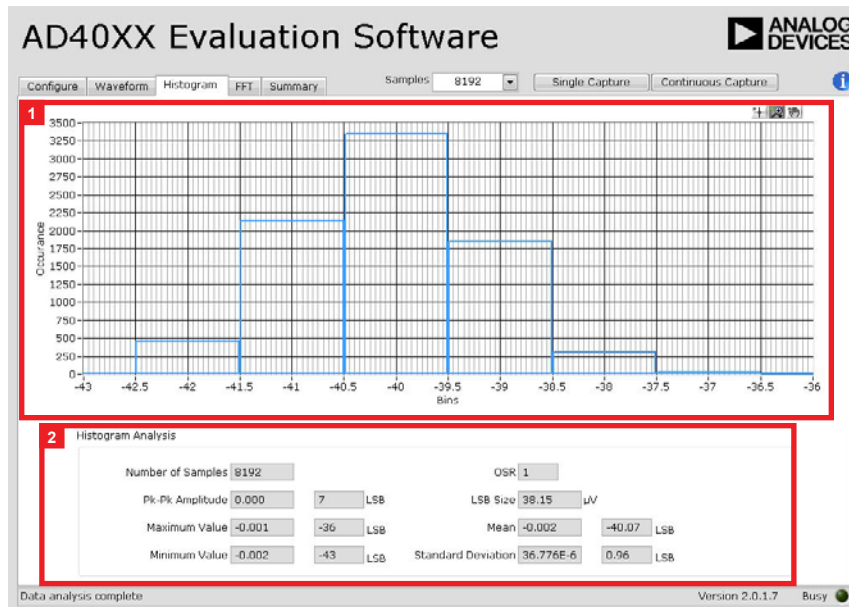

Figure 20. Histogram Tab View
Figure 20 shows the **Histogram** tab view. The **Histogram** tab is useful for performing statistical analysis of the **AD4000** family device conversion results, especially when measuring dc signals. The histogram graph shows the distribution of the conversion results as well as various statistical analysis items. The **Histogram** tab contains the following controls and indicators:
- **Histogram graph** (Label 1 in Figure 20): displays histogram of the most recently captured or loaded conversion results. The scale and range of the histogram graph can be set by double-clicking on the minimum and maximum axis values and entering the desired values. The histogram graph also includes viewing tools, described in Table 5.
- **Histogram Analysis** (Label 2 in Figure 20): shows the following analysis items for the currently displayed data.